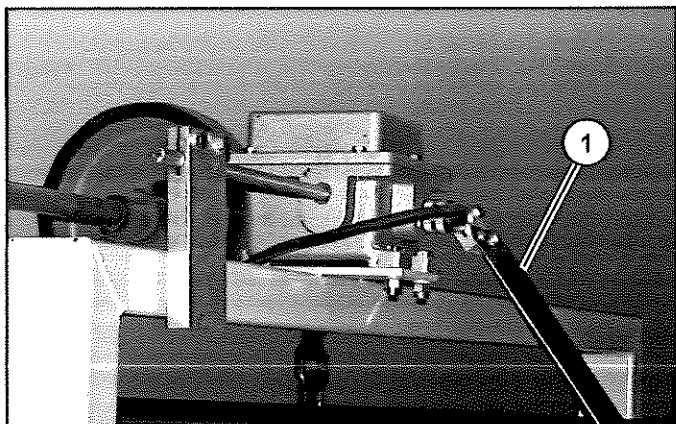

Figure 36
- The material flow switch (Item 1) (Figure 36) needs to be set prior to operation. To set the mechanical material flow switch, adjust the actuating paddle for minimal flow. Remove the cover and set cams inside of the housing so the paddle will drag in the material.